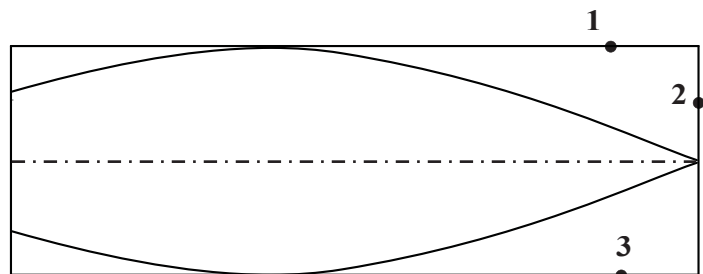

Fig. 10
Step 1. Lines 1, 2, 3 and 4 are no longer needed. Use Delete button  or **F5**. Click the 4 lines and press **F5**, Fig. 10.